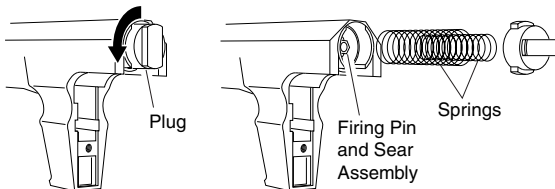

Figure 7 - Removing Plug and Springs to Access Firing Pin
4. Place smaller diameter spring into sear assembly. Make sure spring is over top of firing pin (see Figure 7, page 20).
5. Place large diameter spring over top of smaller spring (see Figure 7, page 20).